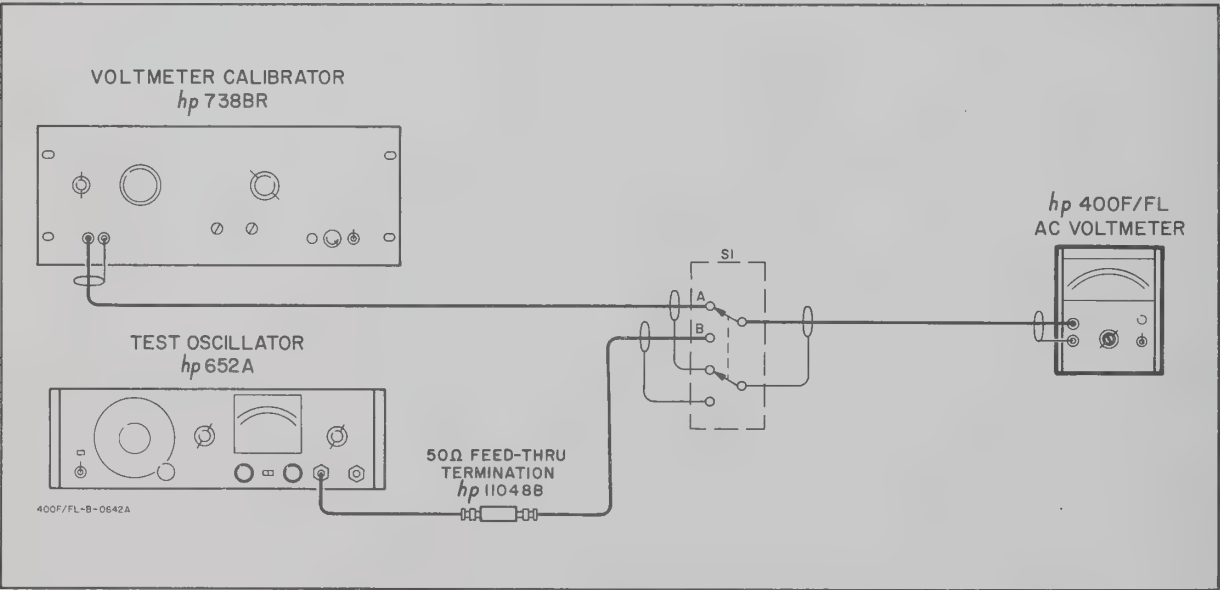
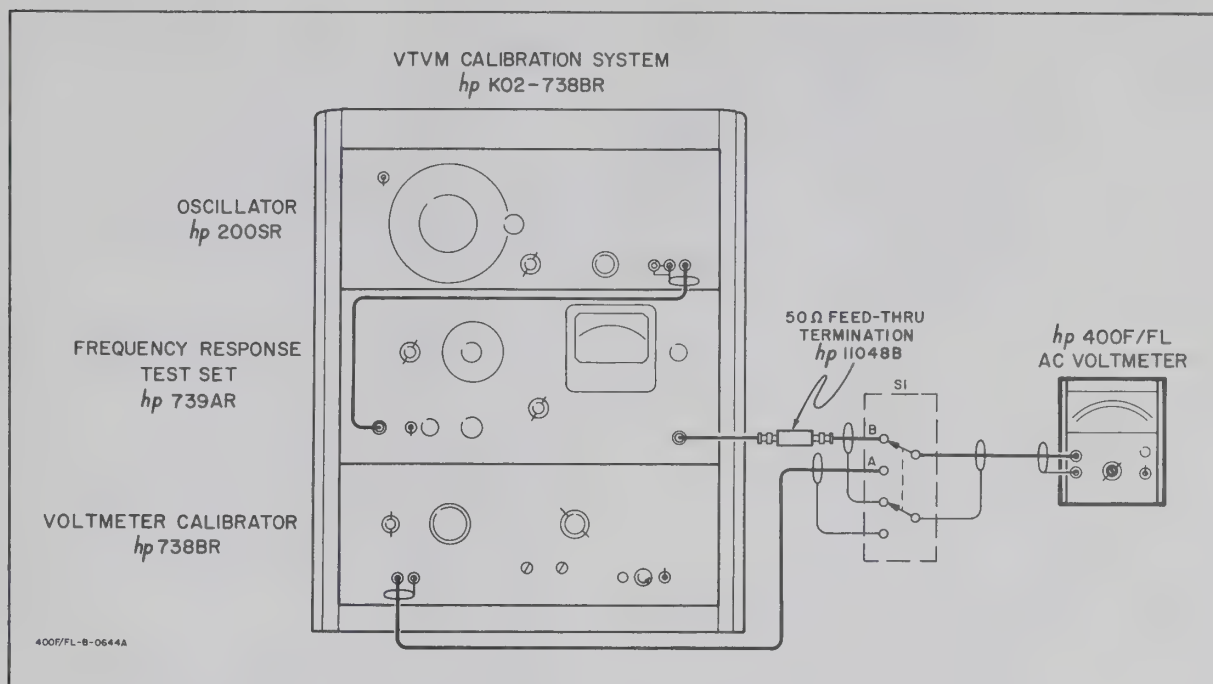

Figure 5-1. Accuracy and Frequency Response Check Setup
Figure 5-2. Alternate Accuracy and Frequency Response Check Setup
5-10. Figure 5-1 shows the test setup for using the -hp- 652A and -hp- 738BR combination. Figure 5-2 shows the test setup for using the K02-738BR VTVM Calibration System.
- a. Connect the voltmeter calibrator, test oscillator, and 50 ohm termination to the Model 400F/FL as shown in Figure 5-1. An external switch, S1, may be used to facilitate switching from one test instrument to the other.
5-16. After verifying the 400F/FL full scale calibration with the accuracy and frequency response tests, check the range tracking of the instrument with the following procedures. Use the test setup shown in Figure 5-1 for the range tracking check.